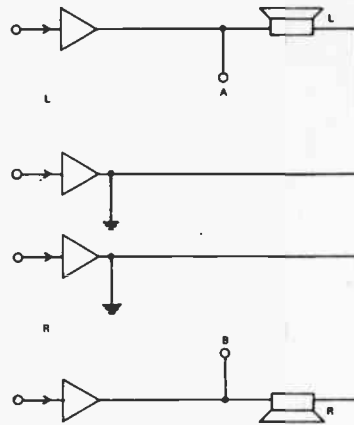

FIG. 5. A dc coupled circuit with zero potential in respect to earth.
3. DC coupling — Fig. 5.
In all probability, if your amplifier is dc coupled (as in Fig. 5), there will be no dc differential voltage — but it is